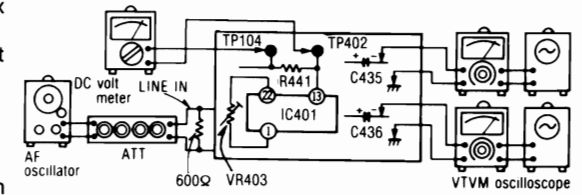

Fig. 25
1. Make the connections as shown in fig. 25.
1. Make the connections as shown in fig. 25 and apply 1kHz -27dB signal from LINE IN, and set the noise reduction selector to dbx disc position.